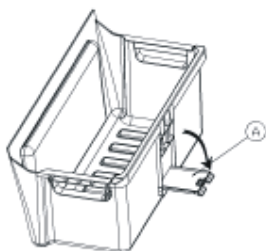

Figure -1-
1-Pull out the bottom drawer of the freezer compartment and open the water drain cover (A) which is at the back of the drawer (figure-1).